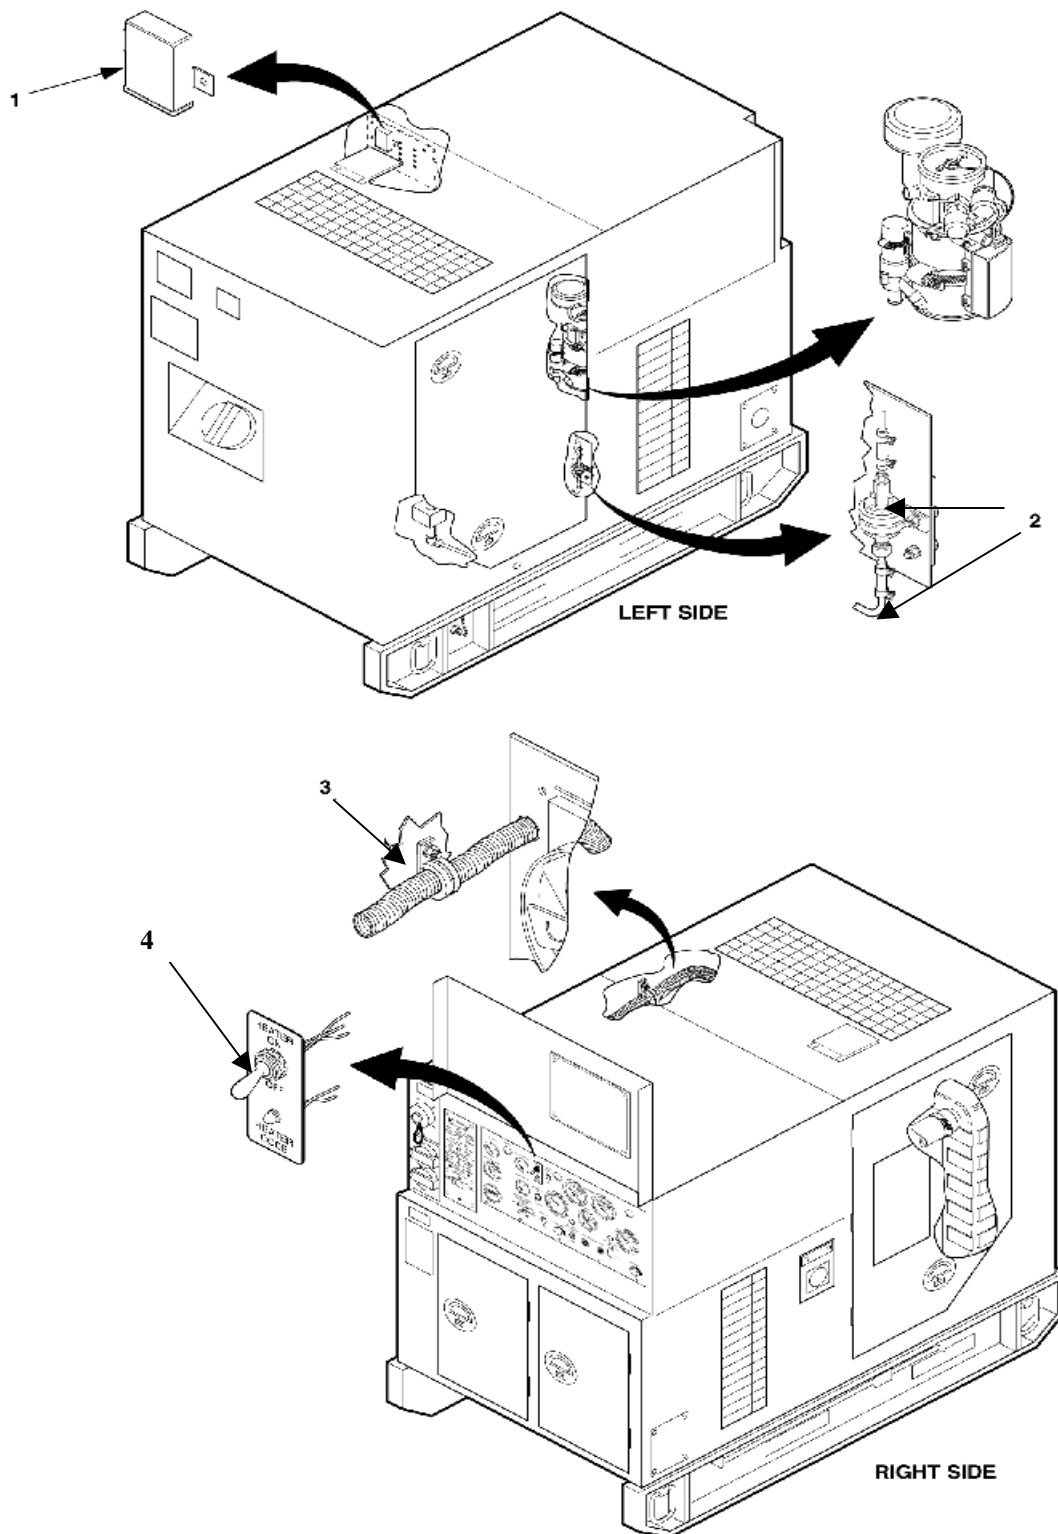

Figure 4-1. Unit PMCS Routing Diagram.
**4-7.4 Special Instructions.** Preventive maintenance is not limited to performing the checks and services listed in the PMCS table. See Figure 4-1 for PMCS routing. Covering unused receptacles, stowing unused accessories, and other routine procedures such as equipment inventory, cleaning components, and touch up painting are not listed in the table. If a routine check is listed in the PMCS table (Table 4-1), it is because experience has shown that problems may occur with this item. Take along tools and cleaning cloths needed to perform the required checks and services.